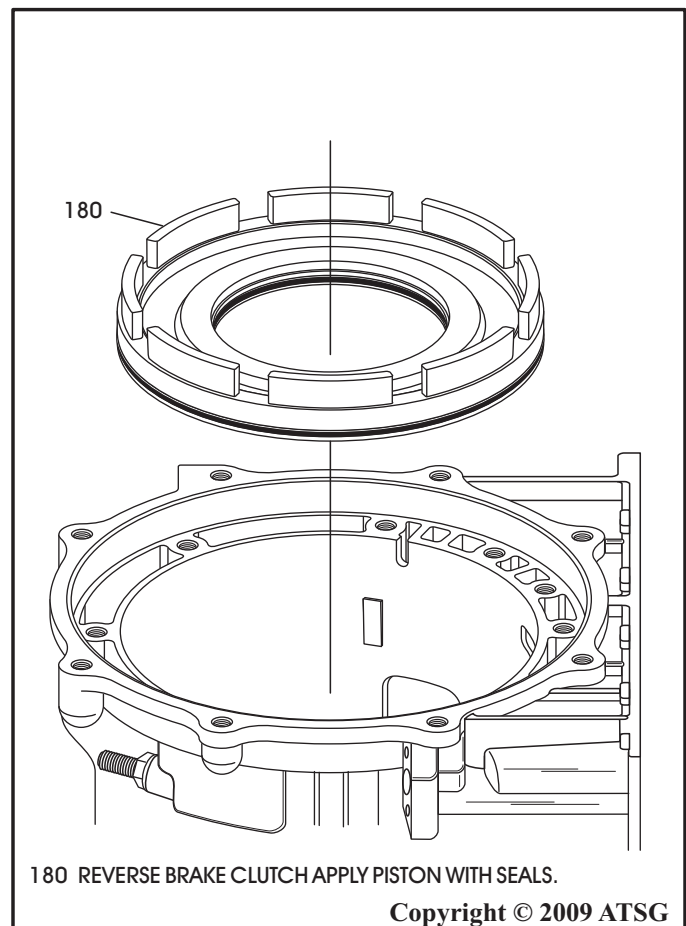

Figure 199
22. Lubricate the reverse brake clutch piston seals with a small amount of Trans-Jel® and install piston into support, as shown in Figure 199.